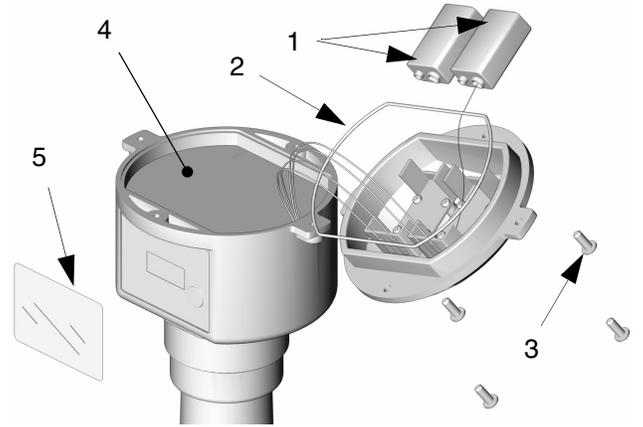

FIG. 1
1. Remove the protective plastic cover (5) over the Tank Level Monitor display that was used for shipping and discard. See FIG. 1.
2. Remove the four screws (3) holding the tank monitor cover in place.